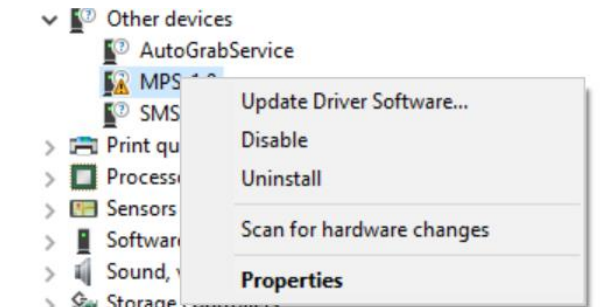

Figure 12: Updating the Driver Software
1. Open the Device Manager and select Update Driver Software (see Figure 12).